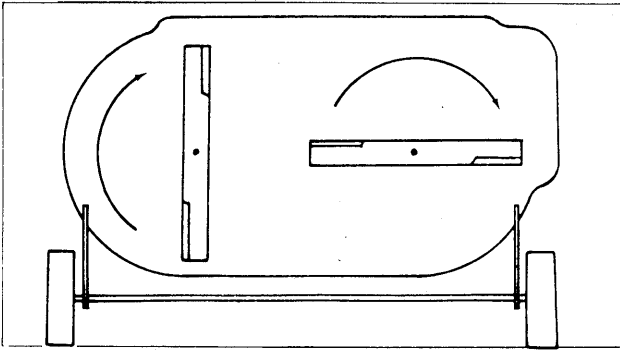

Fig. 17
**TIMING THE BLADES (See Fig. 17)**